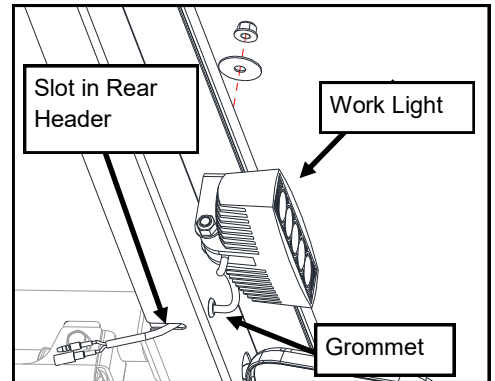

Fig. 1.2
- 1.2. Secure with steel washer and locknut above the canopy. (See Figure 1.2)